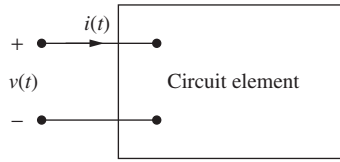

Figure 8.20 Voltage and current in a circuit element.
Consider a circuit element as shown in Fig. 8.20, where $v(t)$ is the voltage in volts (V) and $i(t)$ is the current in amperes (A). Note that the current always flows through the circuit element and the voltage is always across the element.